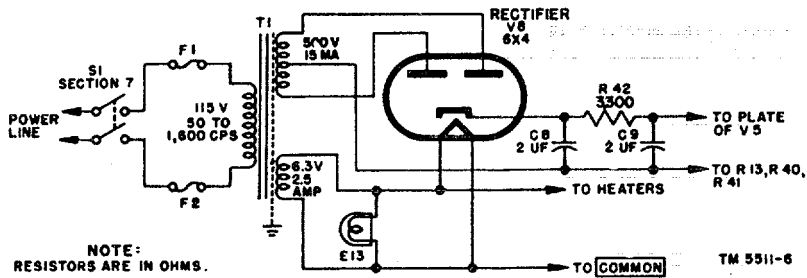

Figure 6. Power supply, simplified schematic diagram.
g. TERMINALS. (1) The OHMS and COMMON terminals are used in the measurement of resistance.
(2) The CASE terminal is a connection to the cover and chassis of the multimeter. It permits grounding the instrument so that the influence of external fields is negligible.
a. Figure 6 is a simplified schematic diagram of the power supply. It includes a conventional full-wave rectifier using a 6X4 tube (V8) to supply 310 volts at 12 ma for the amplifier plate supply. The power supply is designed to operate over a frequency range of 50 to 1,600 cps and takes approximately 20 va at 115 volts.
c. The output of the rectifier (VS) is filtered by C8, C9, and R42. Note that this supply differs from conventional power supplies in that the center tap of the high-voltage winding is not connected to the common bus. With respect to the common bus, the positive voltage is 165 volts dc and the center tap of T1 is - 103 volts dc.